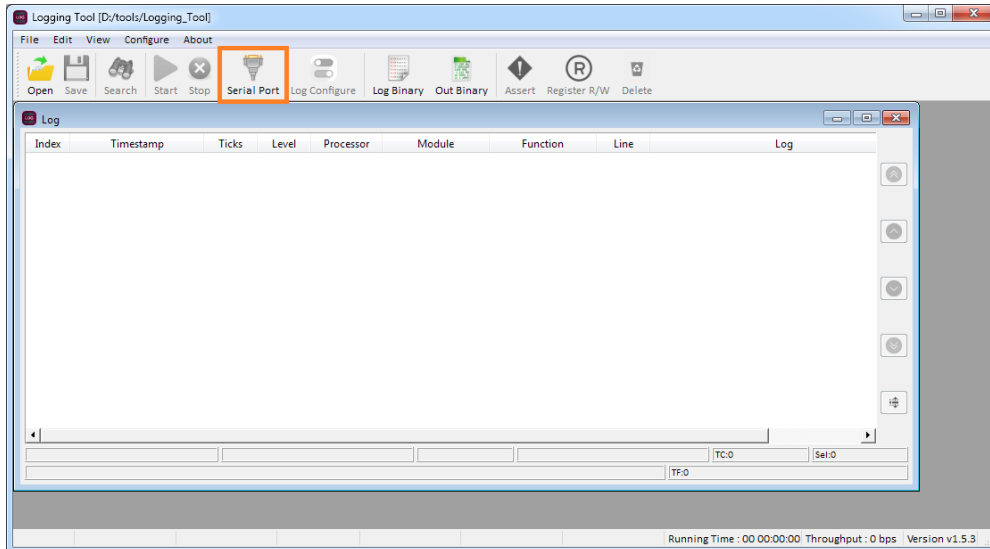

Figure 16. Serial Port Button
- 2) Click "Serial port" as shown in Figure 16.